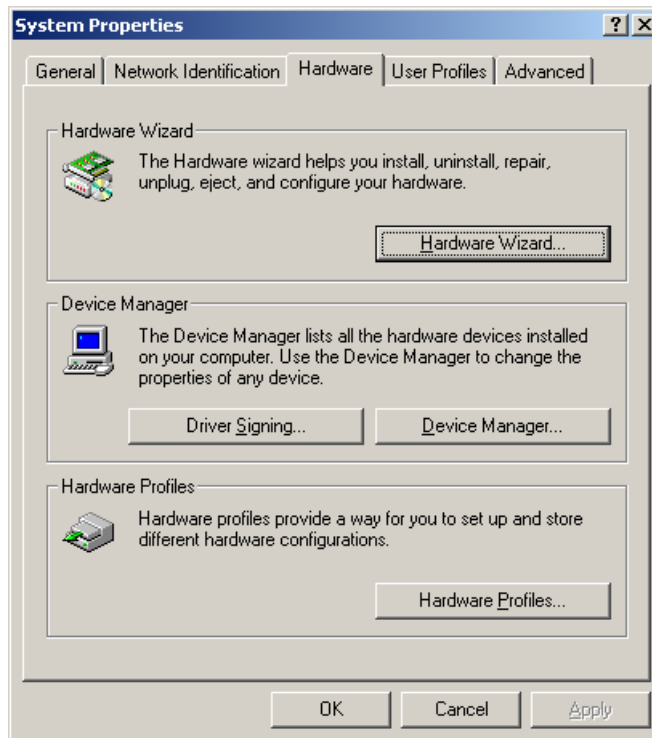

Figure 2-25 [System Properties] dialog box
- 2) In the [System Properties] dialog box, select the [Hardware] tab. See Figure 2-25.